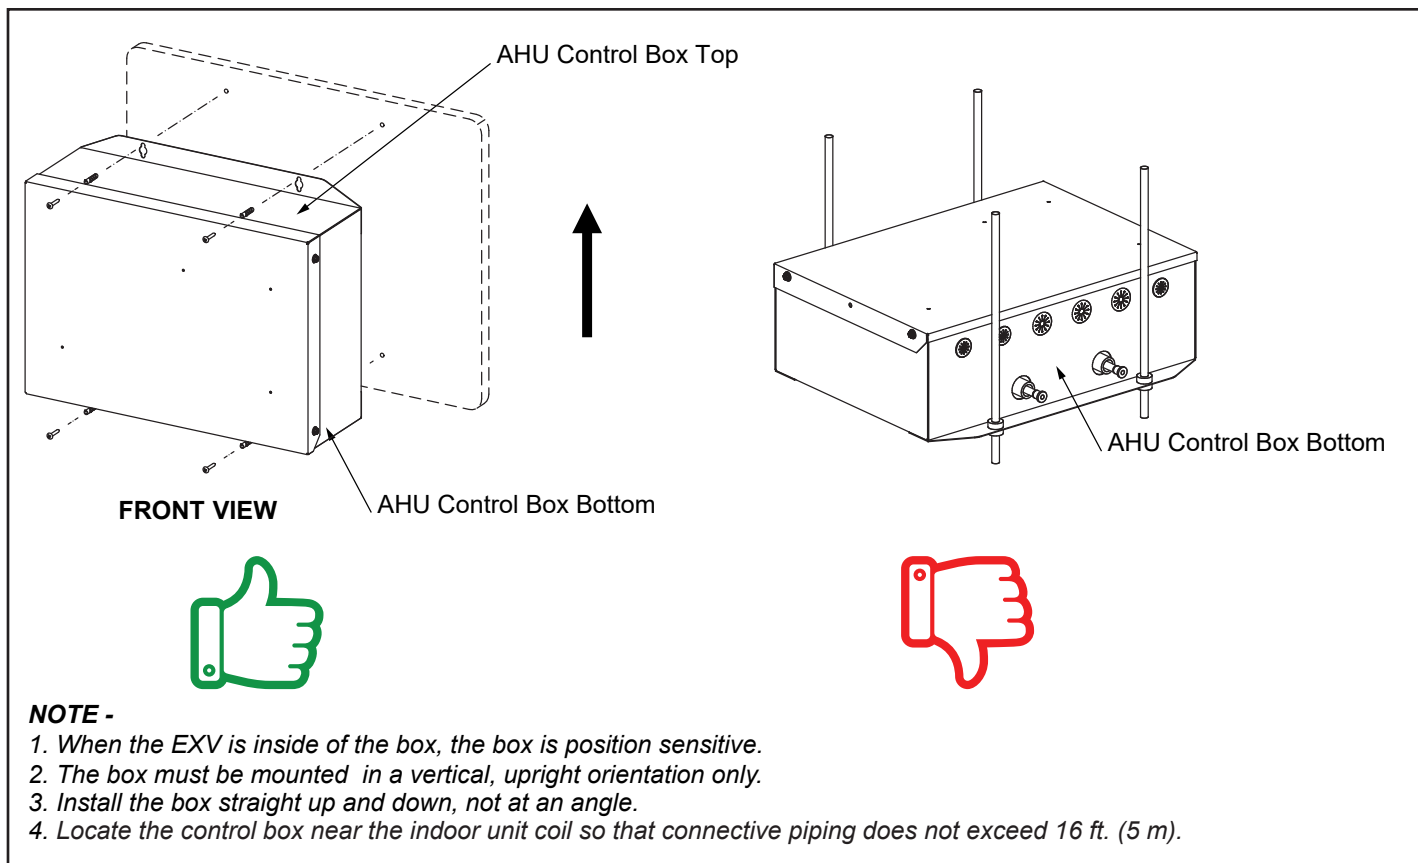

Figure 6. Position the Control Box Vertically when the EXV is in the Box
- EXV of the kit may be moved out of the box and installed separately close to the 3rd coil. See Figure 6.